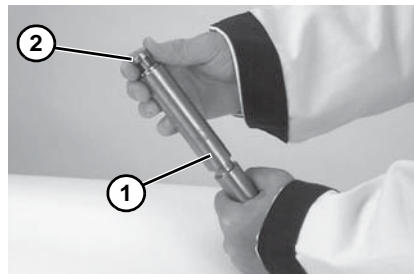

Figure 63
2. Inspect spindle (**Figure 63, item 1**). Replace if worn.
3. Slide bearing (**Figure 63, item 2**) onto spindle.